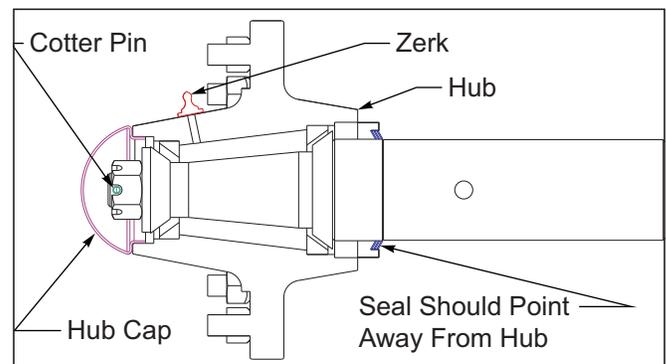

Figure 4-14: Triple Lip Seal
The triple-lip seals should point away from the hub to keep contaminants out and allow grease to pass See Figure 4-14.
11. Install a new cotter pin and replace the hub cap. See Figure 4-14.